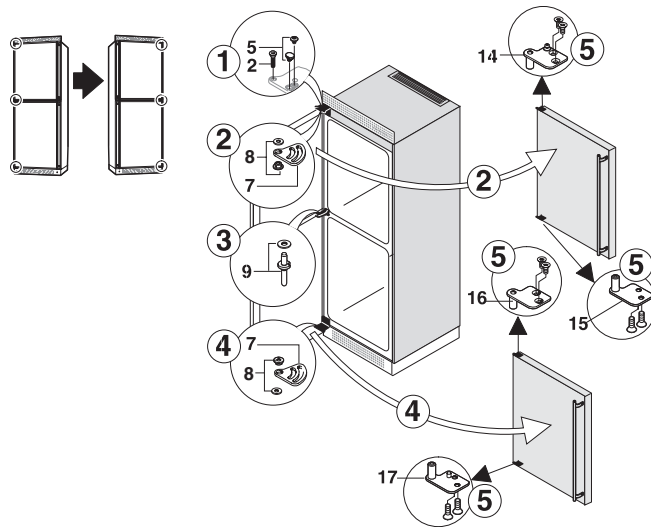
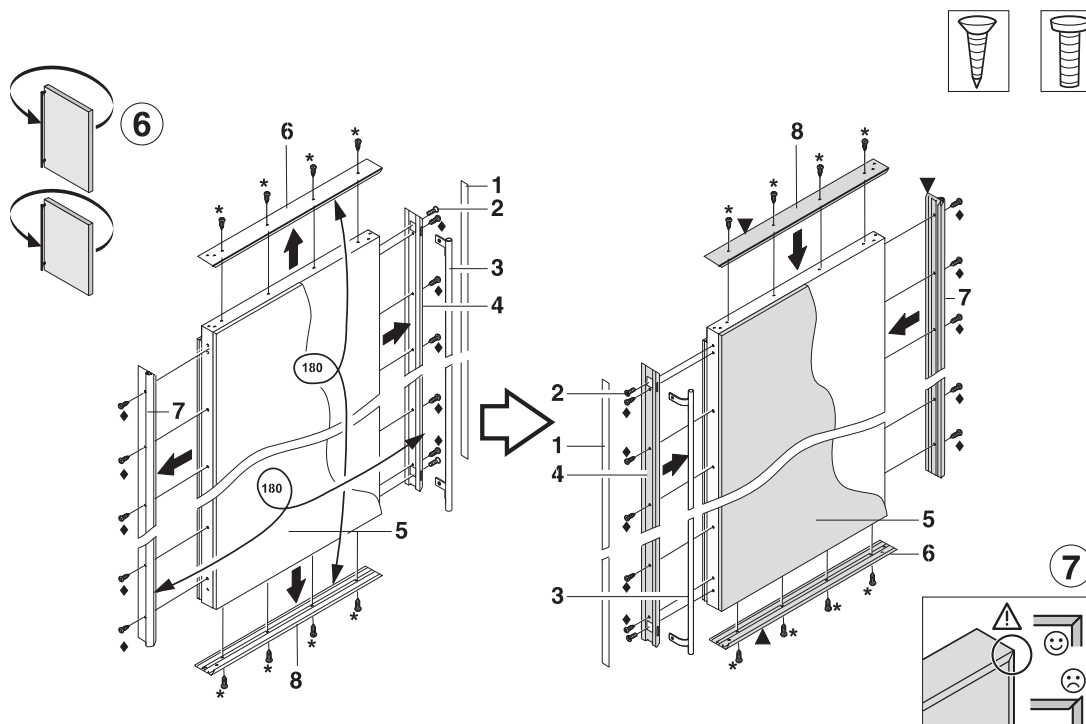

Figure 10
Figure 11
1. **Figure 10: Top:** Unscrew the hinge pin (2) and remove the screw (5) with the eccentric.
2. Swivel out the door at the top, ensuring that you do not lose the stop (7) and bushing (8); lift off the door and place it on the floor.
3. Center: Pull out the hinge pin (9) with its washer.
4. Swivel out the lower door, lift it out and place it on the floor. Take care not to lose the stop (7) and washers (8).
6. **Figure 11:** Unscrew all the door change frames and exchange them with one another (6 with 8, 4 with 7 and handle - remove cover 1). Secure them in position using the same screws.